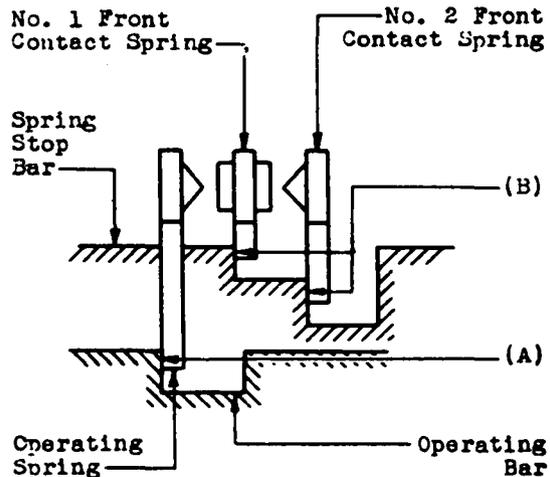

Fig. 15 - Tang Pressure - Switchhook Spring Combination
(1) Operating Spring Tang - Fig. 15
(2) Nos. 1 and 2 Front Contact Spring Tangs - Fig. 15 (B)